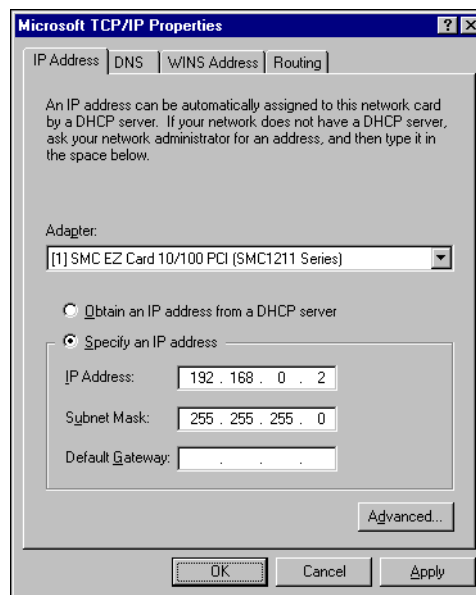

Figure C-0-3: Microsoft TCP/IP Properties Dialog
- 9 Highlight TCP/IP Protocol in the Protocols tab and click **Properties** to open the Microsoft TCP/IP Properties dialog (Figure C-0-3):